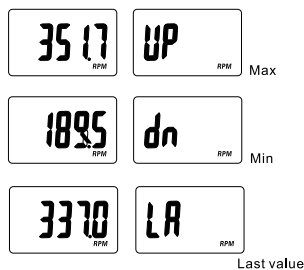

Fig. 2
a. Slide the function switch (4) to RPM or Hz, to select desired unit of measure.
b. Press and hold the measurement button (3); Class II laser will activate. Point light beam at the reflective mark to obtain readings.
c. After display data is stable and the desired amount of readings have been taken, release the measurement button. The maximum (UP), minimum (dn) and last value (LA) have been recorded over the test period.
d. Press “MEM” button (5) to cycle the display through the maximum (UP), minimum (dn), and last (LA) values. The MEM button must be pressed and released each time to cycle through the values (Fig. 2).